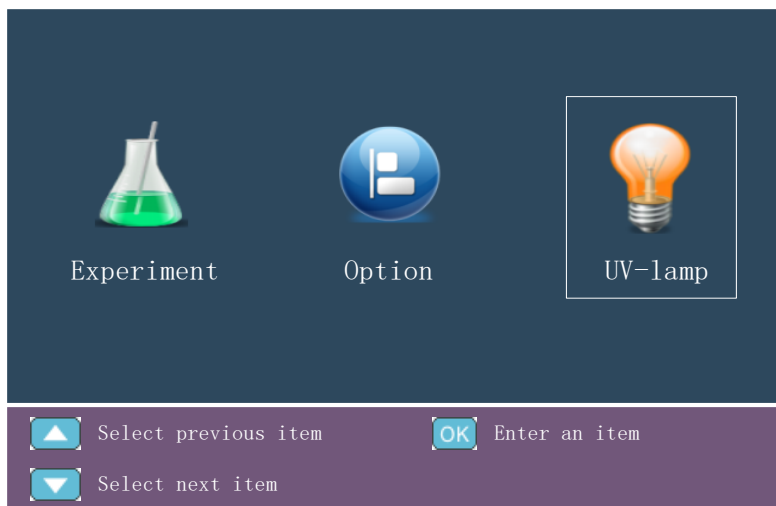

Figure 4-11. Select <  **UV-Lamp** > Icon
1. Press  or  to select the <  **UV-Lamp** > icon on the stand-by interface, as shown in the figure 4-11.